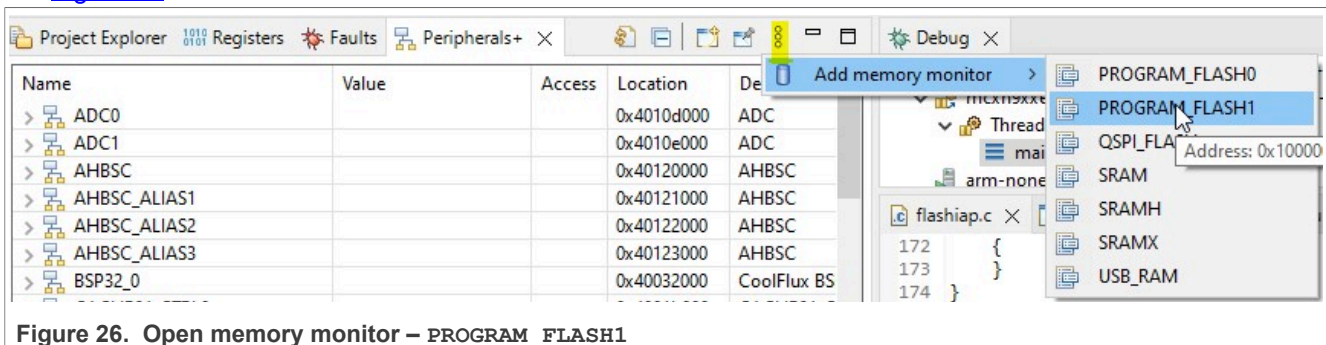

Figure 26. Open memory monitor – PROGRAM_FLASH1
22. On **Peripherals+** tab, Click three vertical dots and select **Add memory monitor -> PROGRAM_FLASH1**, see Figure 26.